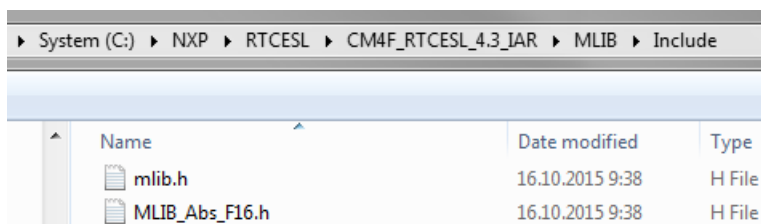

Figure 1-39. Add Files dialog
5. Navigate into the library installation folder C:\NXP\RTCESL\CM4F_RTCESL_4.6_IAR\MLIB\Include, and select the *mlib_FP.h* file. (If the file does not appear, set the file-type filter to Source Files.) Click Open. See Figure 1-39.